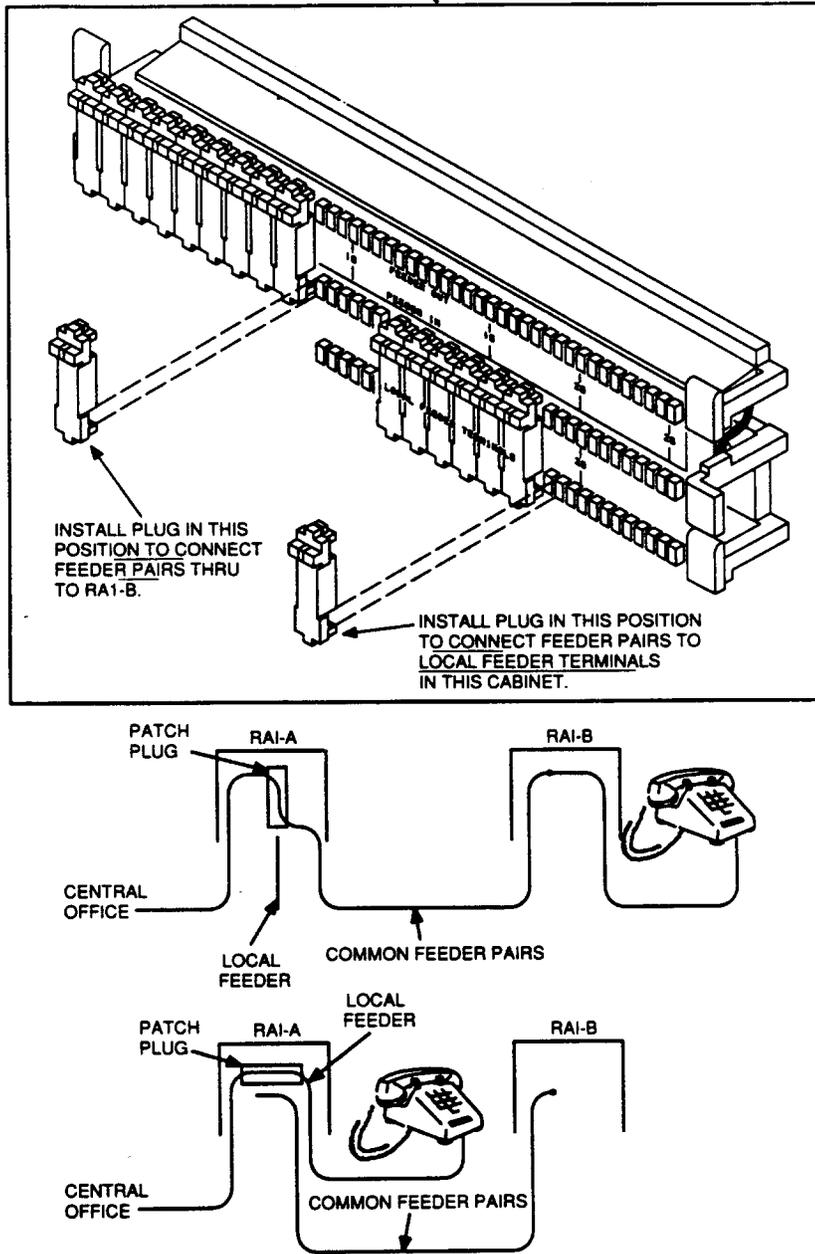

Figure 21. Method of Connecting Feeder Pairs in RAI-A
- (a) Feeder pairs from the central office are connected through to RAI-B by means of patch plugs installed in the RAI-A so that feeder-in pairs are connected or switched to the feeder-out pairs. When a cable pair is connected through to RAI-B, that cable pair can be used only in RAI-B (Figure 21).
- (a) Feeder pairs from the central office are connected through to RAI-B by means of patch plugs installed in the top position in RAI-A so that *feeder-in* pairs are connected or switched to the *feeder-out* pairs as shown in Figure 21. When a cable pair is connected through to RAI-B, that cable pair can be used only in the RAI-B.
- (b) When the patch plug connects *feeder-in* pairs to *local feeder*, that cable pair is available only at RAI-A on the binding post field (Figure 21).